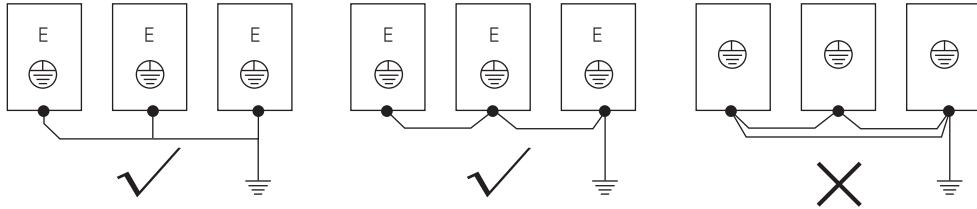

Figure 2-12 Connection of grounding wire
- Example: as shown in Figure 2-12